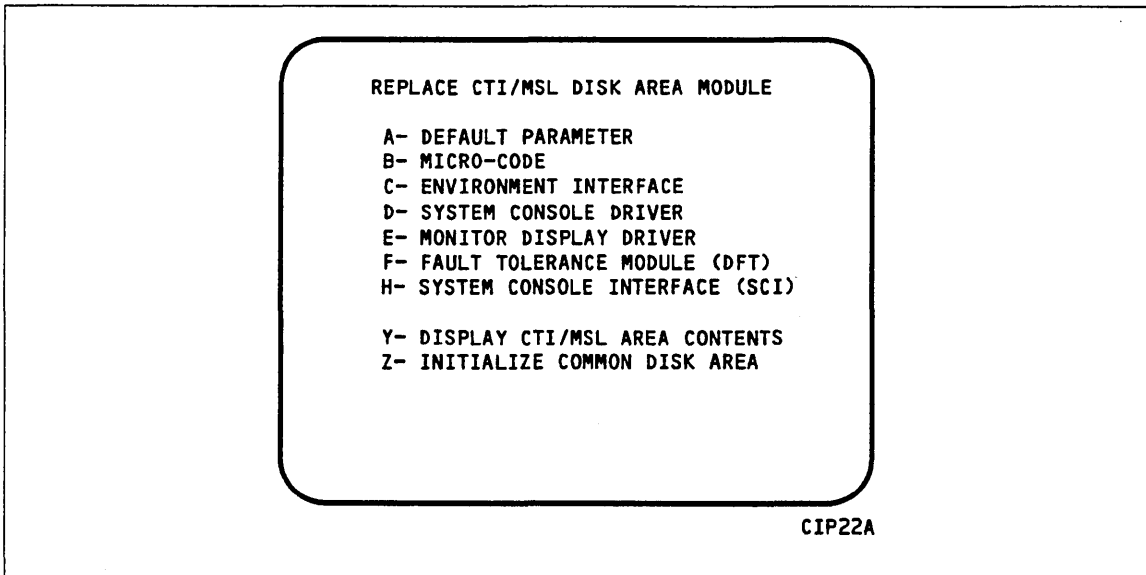

Figure 2-25. Replace CTI/MSL Disk Area Module
Select this option to replace microcode, EI, the CC634B SCD, MDD, DFT, DPB, SCI, or the NOS/VE boot modules, or to initialize the CDA. When option D is selected, you are prompted to enter the disk channel and disk unit numbers. After you enter the channel and unit numbers or press the carriage return key (CR) to accept the default values shown, the REPLACE CTI/MSL DISK AREA MODULE display shown in figure 2-25 appears. Options A through H manually replace CIP modules in the Common Disk area on the CIP device.